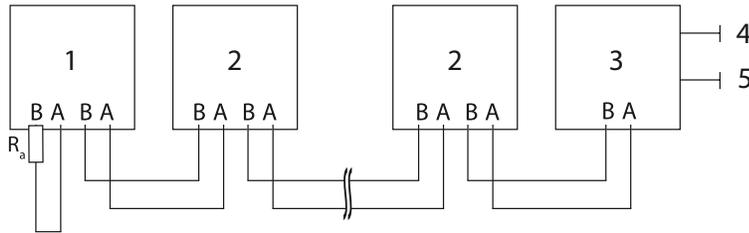

Figure 18: RS485 interface wiring diagram
- Wire B (+) with wire B (+) (see Figure 18 on page 24)